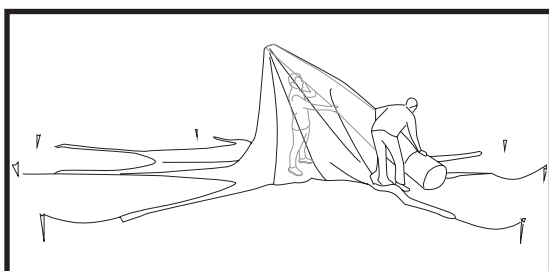

Fig. 19
20. Erect the pole by moving it under the canopy. Place the base of the pole instead of the central spike of the measuring tool. (take out the spike before placing the pole). This step is easier when 1 person moves the pole and 2 person lifts the pole (Fig. 19). If you assemble a tent with two or more poles, for each pole repeat the steps described in points 14-19 for each pole.